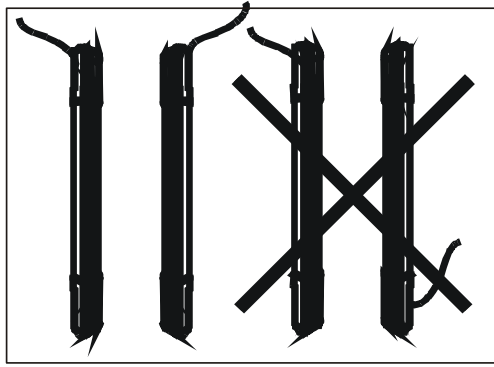

fig. 2
- In the same direction (both terminal blocks placed on the upper side or on the lower side) (fig. 2)